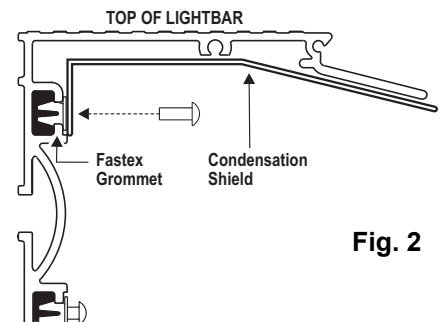

Fig. 2
1. Slide the supplied Fastex grommets into the extrusion as shown in fig. 2. Position these grommets above the rotator's mounting area.
1. Slide the supplied Fastex grommets into the extrusion as shown in Fig. 2. Position these grommets above the rotator's mounting area.